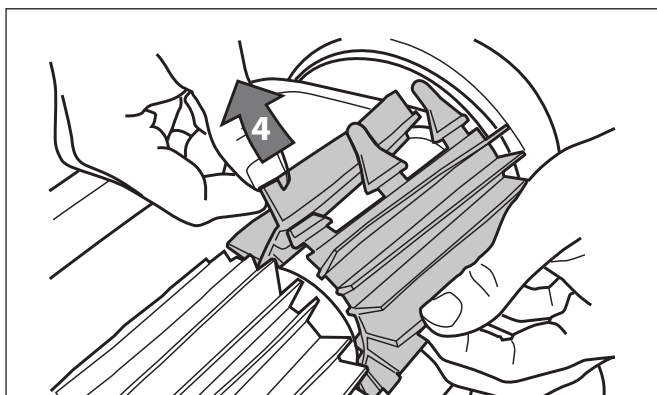

Figure 23. Pull Tabs Through Each Slot
- Thread each tab into the slot provided and gently feed it through until the heel comes out at the other side of the slot (Figure 23).